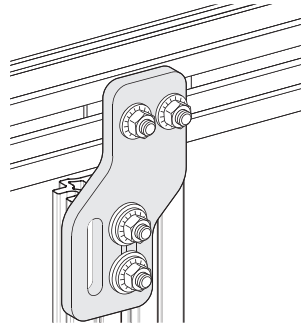

Fig. 20: Vertical non-sliding fishplate option for linergy busbars
■ **Joining linergy bars with vertical non-sliding fishplate (see Fig. 20):**